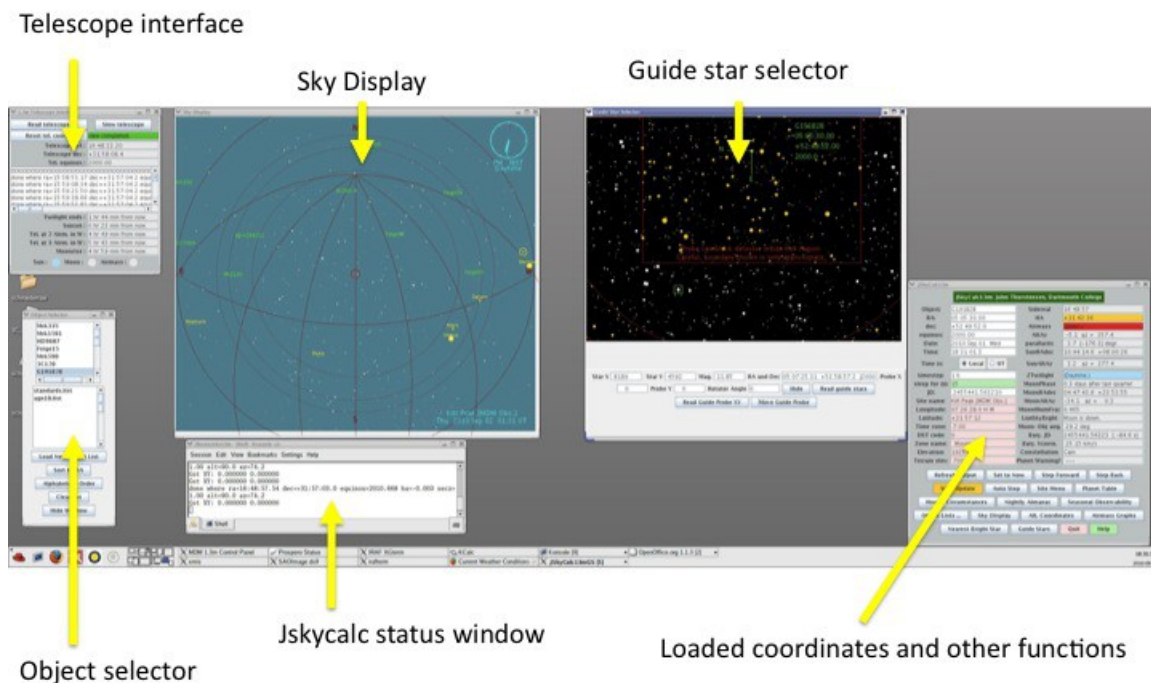

Figure 8. The jskycalc setup and interface.
2. Start jskycalc by typing “./runjskgs” in this terminal. A skycalc GUI will open, along with 3 other windows. See Figure 8 for reference.